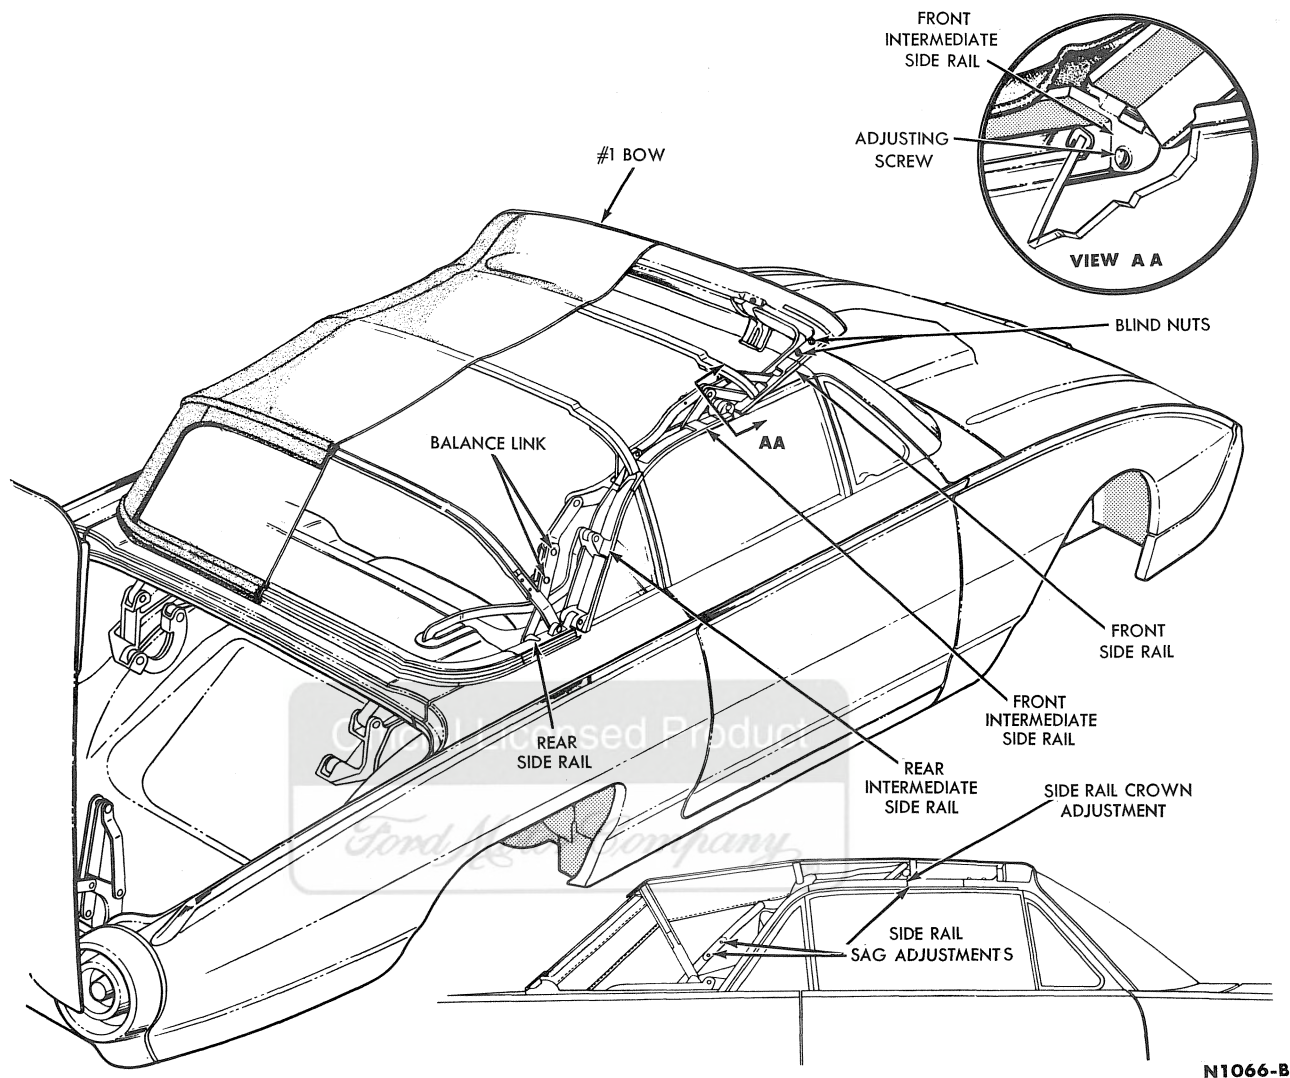

FIG. 3-23—Top Linkage
side rail set screw flush with the end of the rail (Fig. 3-23).
3. Loosen the balance link adjustment bolts (Fig. 3-23) at each side of the car.
4. Lengthen or shorten the balance link (Fig. 3-23) to obtain a parallel condition between the front side rail, the front intermediate side rail, and the top of the door window frame.
5. Tighten the balance link adjustment bolts. **To eliminate a crowning condition, adjust the front intermediate side rail set screw (Fig. 3-23).**
2. If the top stack needs vertical adjustment for clearance, loosen the balance link adjustment bolts shown in Fig. 3-23.